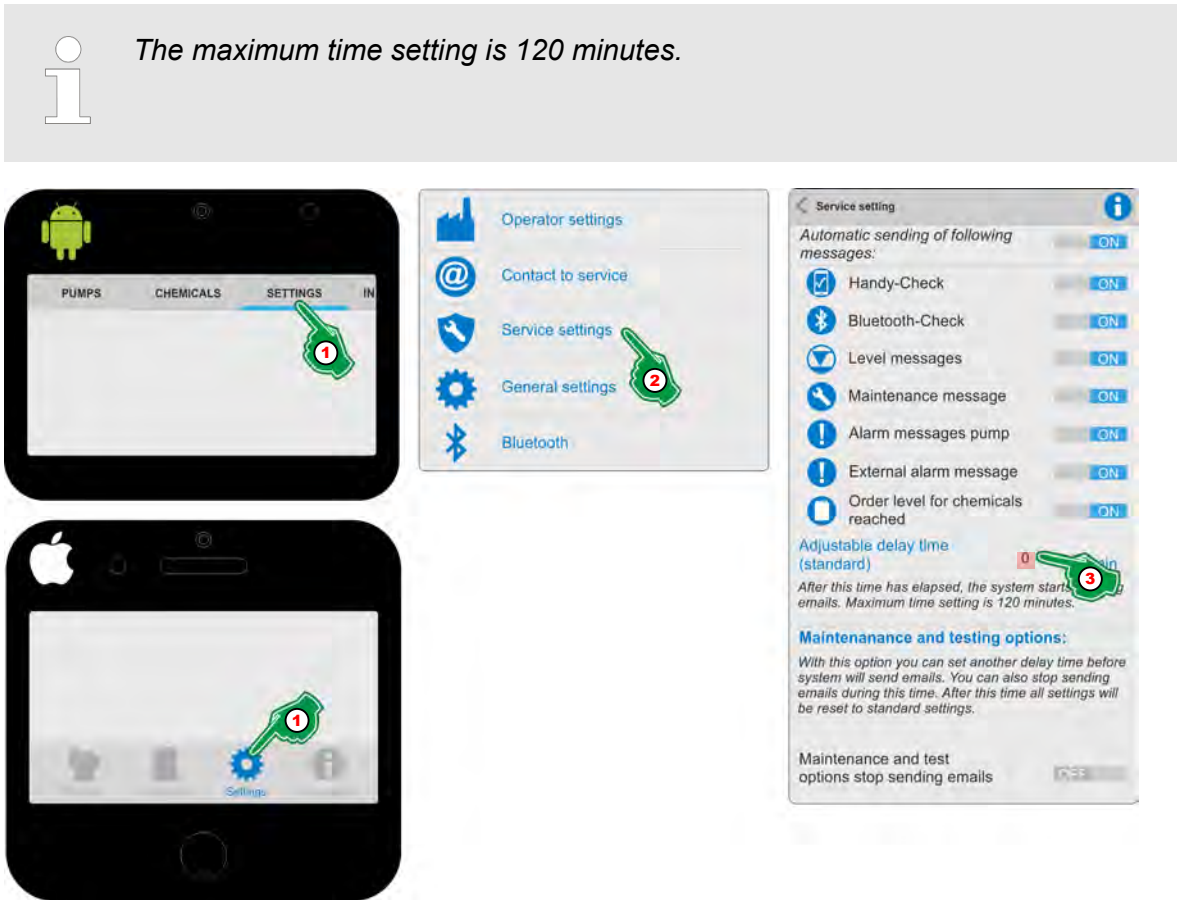

Fig. 13: ‘Adjustable delay time’
1. ➤ Select [Settings] (Fig. 13, Pos. 1).
2. ➤ Select [Service Settings] (Fig. 13, Pos. 2).
3. ➤ In the input field for the ‘Adjustable delay time’ (Fig. 13, 3) to set the required capacity / flow rate.